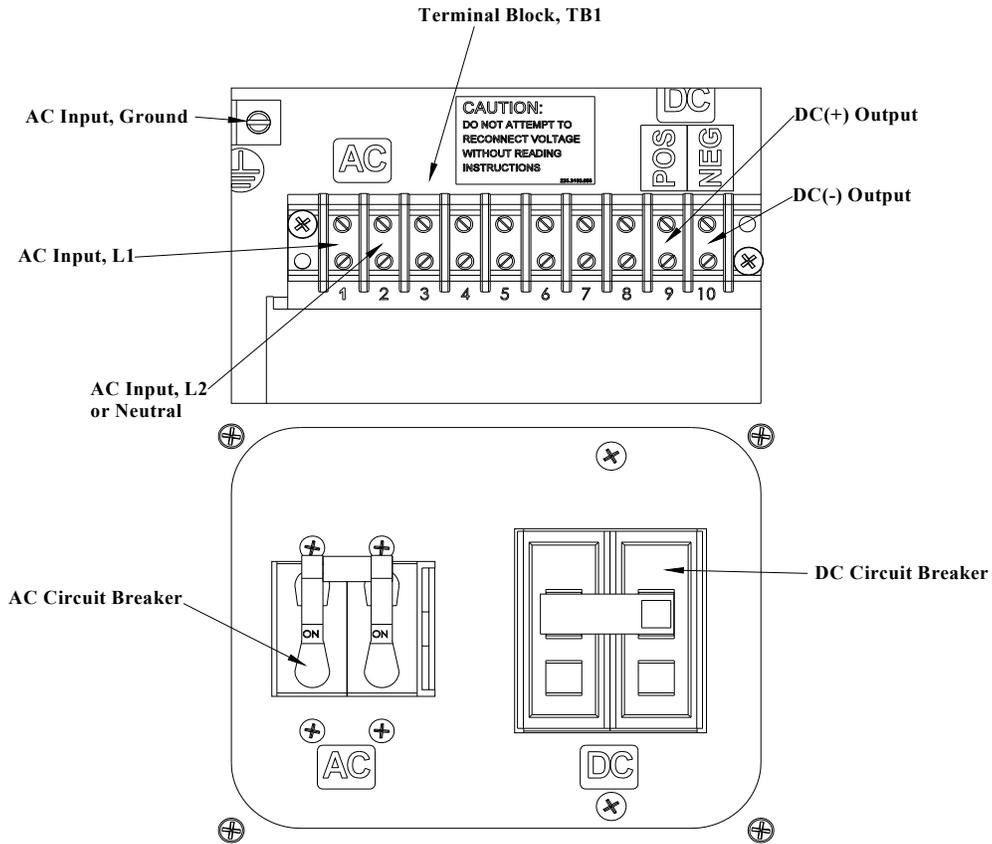

FIGURE 2-3 ELECTRICAL INSTALLATION TERMINALS, 12" CABINET MODELS
Ground the charger to the site's earth/safety ground. Figures 2-3 and 2-4 show the provided ground terminal. Connections must comply with the National Electrical Code and all applicable local codes and ordinances.
6. Connect the cable to the AC input terminal block. See Figure 2-3 or 2-4 for connections. The power supply electrical circuits are isolated from ground so the AC supply must be connected to terminals TB1-1 and TB1-2 on all models.
5. Connect the battery leads to the terminal block. See Figure 2-3 or 2-4 for the terminal block location. Mark the free cable ends with the polarity (+ or -).